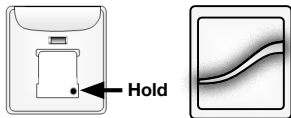

Fig. 2
B. Press and hold the program button on the secondary remote control until the LED light flash green (about 3 seconds), then release the button. (Fig. 2.) Both the primary and secondary remote LEDs will flash green, then turn off confirming inclusion.